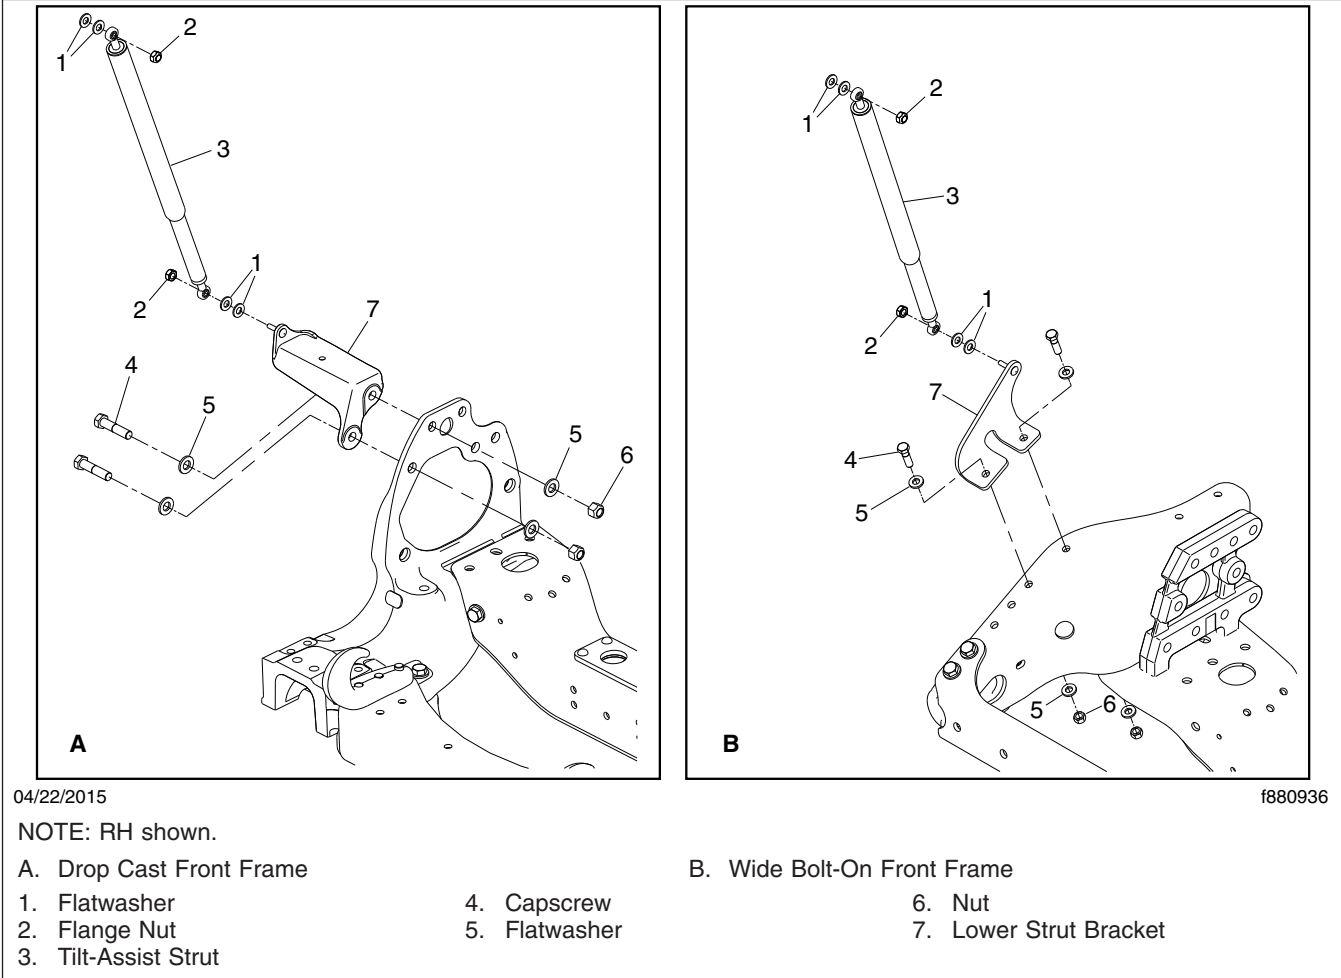

Fig. 5, Tilt-Assist Strut and Mounting Bracket Installation
4. On one side of the hood, disconnect the hood tilt-assist strut by removing the nuts that attach it to the hood and the chassis. See Fig. 5 and Fig. 6.
6. Remove the chassis-mounted lower bracket by removing the two bolts and nuts, and the washers that attach it to the chassis. See Fig. 5.